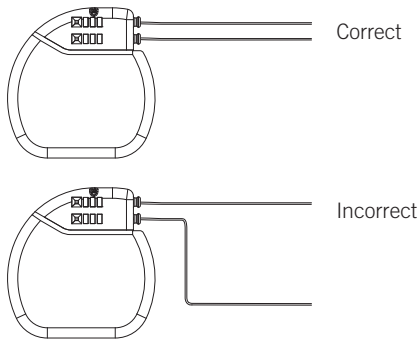

FIGURE 13
2. For multiple-lead systems, the leads and extensions must be routed adjacent to each other. Patients implanted with nonadjacent leads may experience changes in perceived stimulation levels caused by theft detectors and screening devices (see Figure 13).